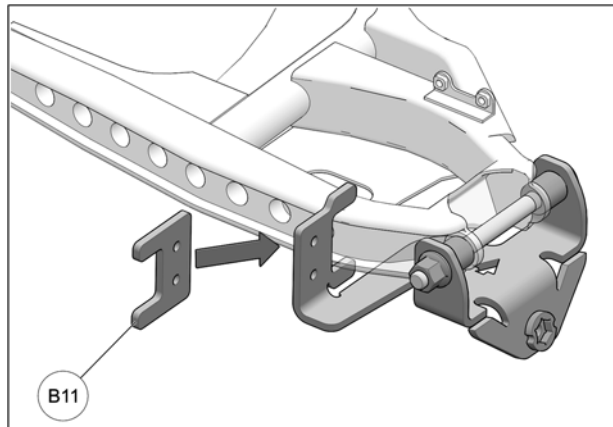

Fig. 12
13. Install spacer plate (B11) against C-shaped back end of bracket. Align holes. See Fig. 12